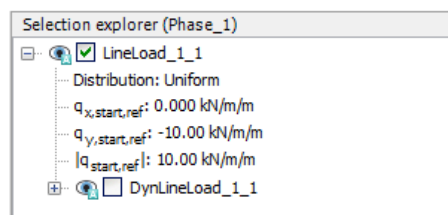

Figure 85: Line load in the Selection explorer
- After selecting the line load assign a value of -10 to  $q_{y,start,ref}$  in the **Selection explorer** shown in Figure 85 (on page 111):